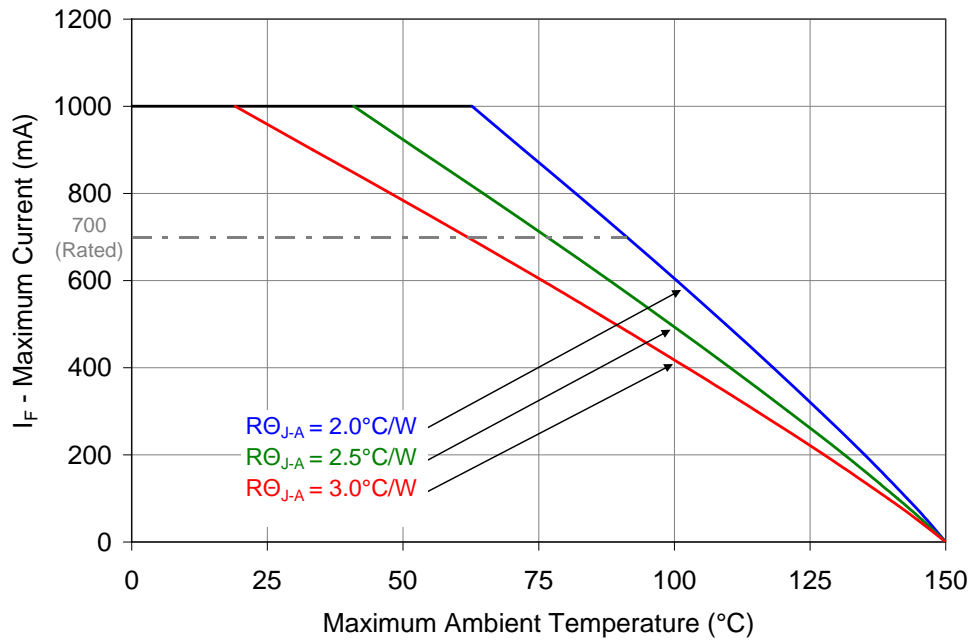

Figure 10: Maximum forward current vs. ambient temperature based on $T_{j(MAX)} = 125^{\circ}\text{C}$.
- Maximum DC forward current (per die) is determined by the overall thermal resistance and ambient temperature. Follow the curves in Figure 10 for current derating.
Notes for Figure 10: